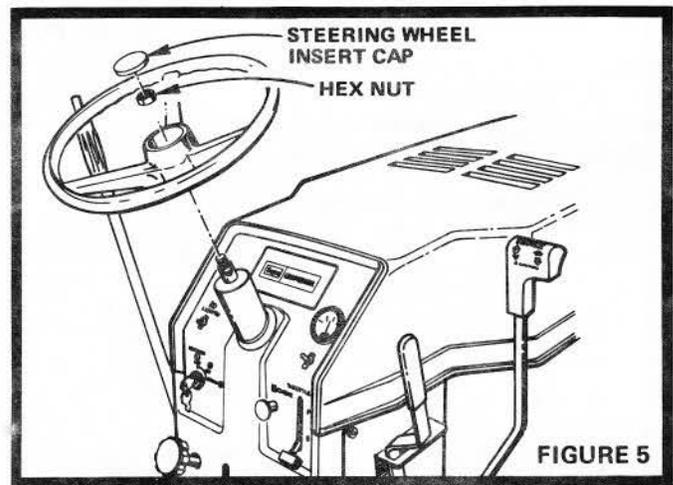

FIGURE 5
- a. Place Steering Wheel on Shaft (Fig. 5).